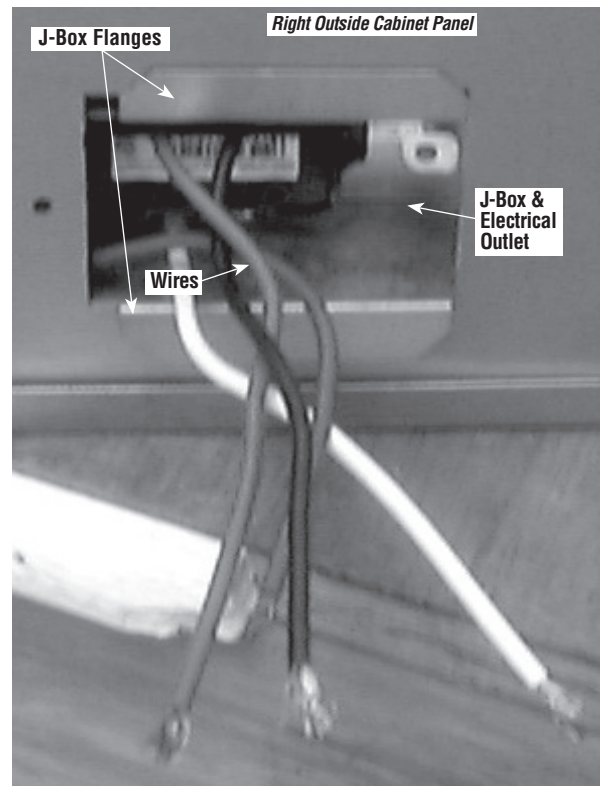

Figure 19
Step 7. Locate the J-Box cover (provided in J-Box Kit). Remove the round knock-out (see **Figure 19**).